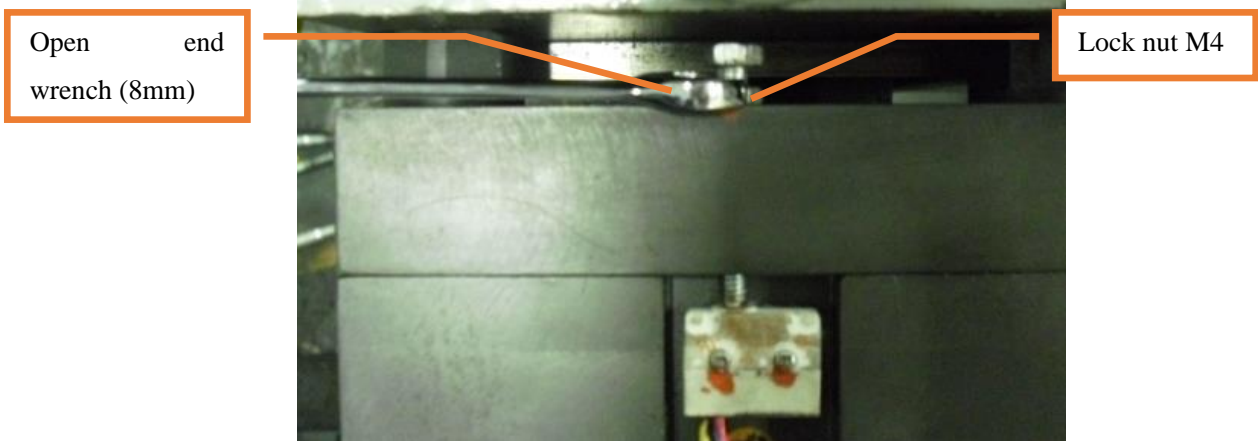

Figure 29: Loosen lock nut
1. Use the open end wrench 8mm to loosen the lock nut M4 and the activation bolt. See Figure 29.